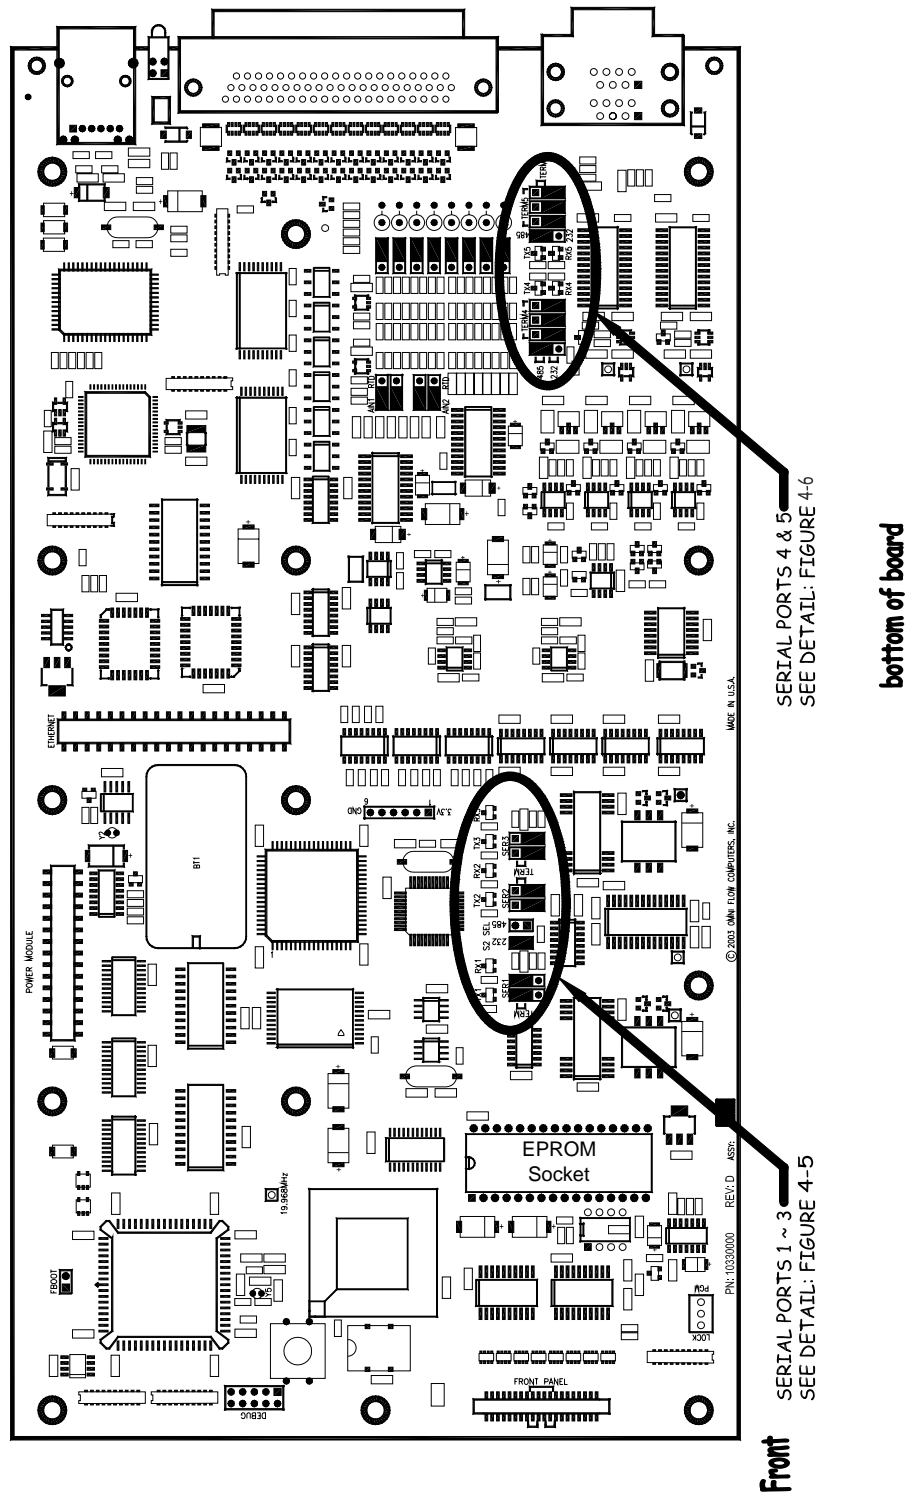
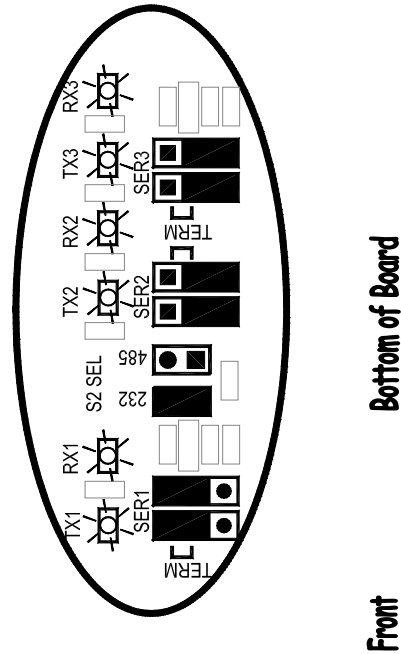
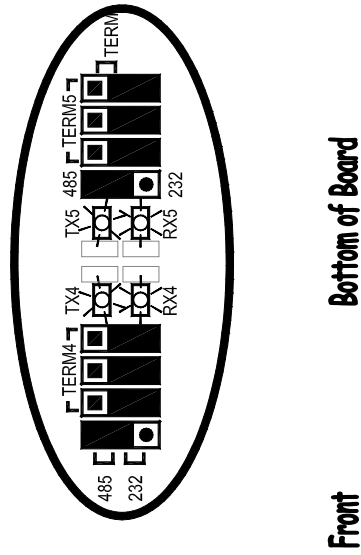

Figure 4-4. Location of Serial Port selection jumpers and LEDs on the Processor Board.
Figure 4-5. Detail of Serial Ports 1, 2 and 3 Jumpers and LEDs on the Processor Board. (View the jumpers in the same orientation as in figure 4-4.)
Figure 4-6. Detail of Serial Ports 4 and 5 Jumpers and LEDs on the Processor Board. (View the jumpers in the same orientation as in figure 4-4.)
Selection jumpers for the Serial Ports are located on the Processor Board. See Figure 4-4 for the location of these jumpers. Figure 4-5 provides a detailed view of the jumpers and LEDs for Serial Ports 1, 2, & 3 and Table 4-4 defines the available jumper settings of each port. Figure 4-6 provides a detailed view of the jumpers and LEDs for Serial Ports 4 & 5 and Table 4-5 defines the available jumper settings of both ports.
**Jumpers are in the same orientation as in figure 4-4*
*Jumpers are in the same orientation as in figure 4-4